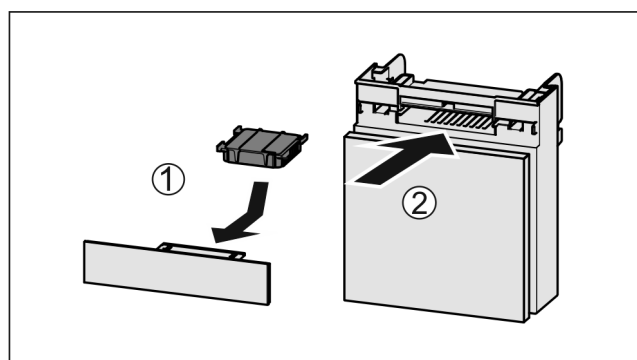

Fig. 116
- Insert the carbon filter as shown in the diagram Fig. 116 (1).
- Push the compartment in Fig. 116 (2).